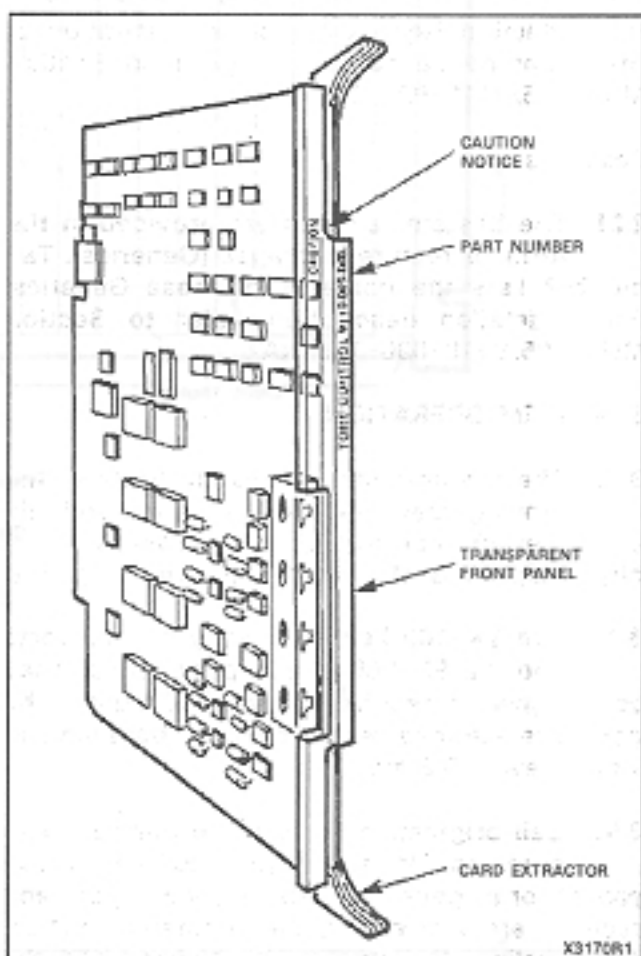

Fig. 2-5 Printed Circuit Card
2.14 All circuit cards (Fig. 2-5) used in the PABX's are identical in construction and consist of a fiberglass board with printed wiring patterns on both of its faces. Riveted to the front of each board is a transparent faceplate which allows the LED's mounted on the front of the boards to be easily seen. The two color-coded card extractors, located at the top and bottom of the faceplate, identify the card position within a shelf and ensure that the card is seated correctly in the backplane connector.